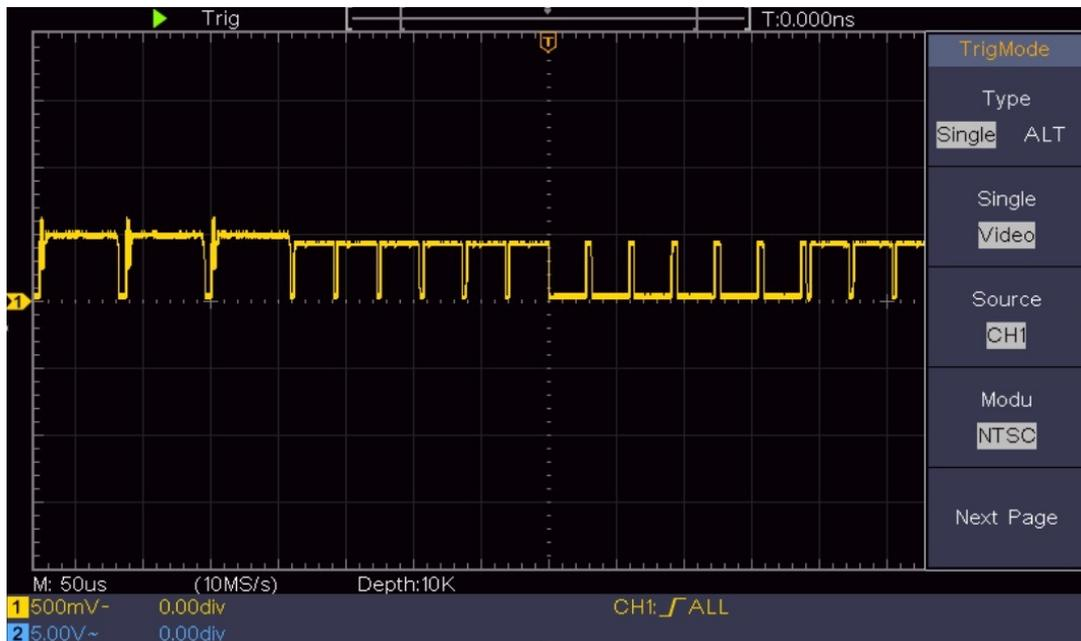

Figure 6-7 Waveform Captured from Video Field Trigger
- (1) Push the **Trigger Menu** button to display the right menu.
- (2) In the right menu, select **Type** as **Single**.
- (3) In the right menu, select **Single** as **Video**.
- (4) In the right menu, select **Source** as **CH1**.
- (5) In the right menu, select **Modu** as **NTSC**.
- (6) In the right menu, press **Next Page**, select **Sync** as **Field**.
- (7) Turn the **Vertical Scale**, **Vertical Position** and **Horizontal Scale** knobs to obtain a proper waveform display (see Figure 6-7).